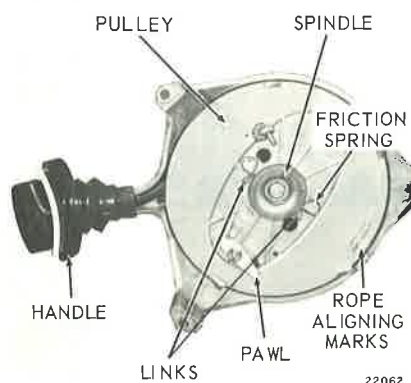

Figure 8-1. Recoil Starter Assembly
The manual starter engages the power head flywheel ratchet with a pawl when the starter rope handle is pulled. A coil spring winds tight as the rope unwinds and rewinds as the handle is returned to the starter housing. See Figure 8-1.
f. Pull starter rope out a few times, then check timing. When the starter is properly timed, an arrow on the housing will align within the limits of a box marked on the pulley. See Figure 8-1.
g. Apply a light coat of OMC Sea-Lube* Anti-Corrosion Lubricant to spindle and install in housing with spindle screw and washer. See Figure 8-1.
l. Apply a light coat of OMC Sea-Lube* Anti-Corrosion Lubricant to pawl pin, and install pawl with spring and links. See Figure 8-1 and 8-2. Secure pawl with retaining ring.
n. Pull starter rope out a few times, then check timing. When the starter is properly timed, an arrow on the housing will align within the limits of a box marked on the pulley. See Figure 8-1.